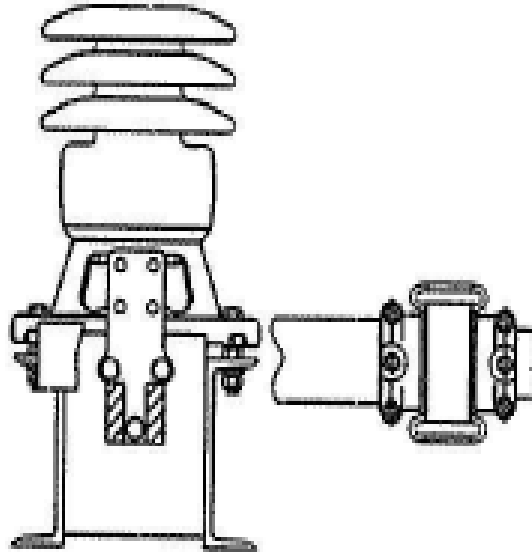

Figure 3: Hinge Assembly Bolted to Switch Pole
3. Bolt the Grounding Switch Hinge Assembly to the switch base - **Figure 3**.